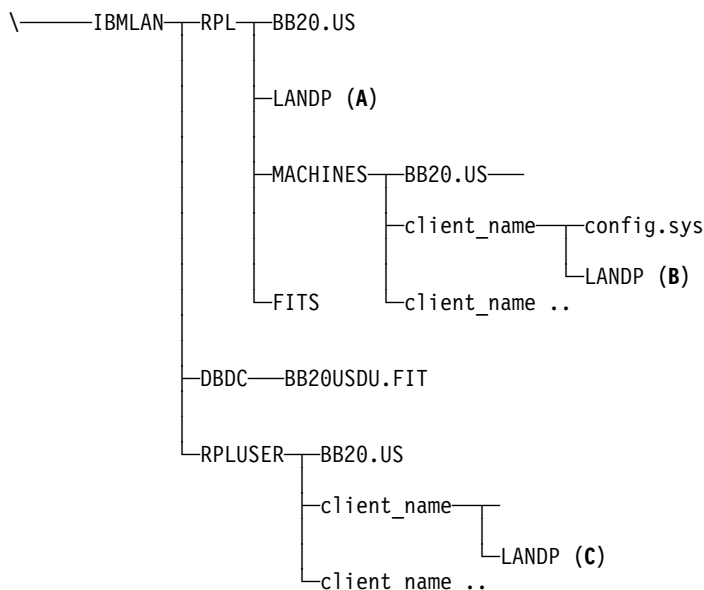

Figure 16. Integrating LANDP into WorkSpace On-Demand directory structure
*WorkSpace On-Demand Road Map* gives a detailed walkthrough of how to install an application onto a WSoD server. Figure 16 (based on page 59 of *WorkSpace On-Demand Handbook (Release 2)*) shows how an application like LANDP is integrated into the WSoD directory structure for remote IPL.